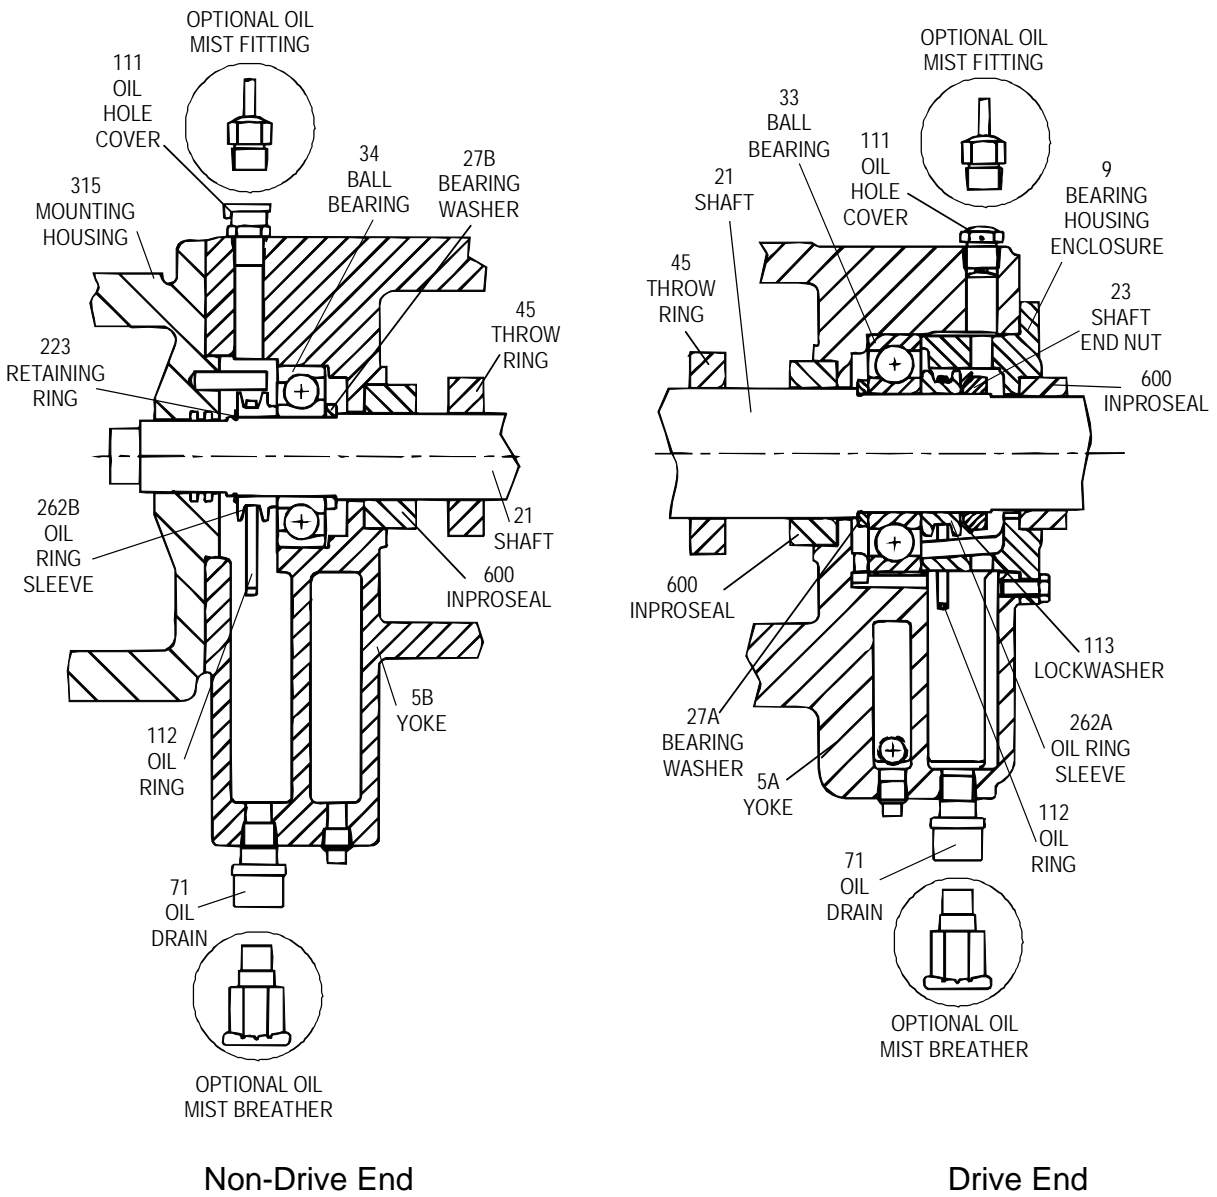

Figure L-5 RLA Bearing Housings Cross Section Optional Inproseal Design, 12L/12M
- k. Mount the oil ring sleeve with orientation shown in Figure L-5 and secure it with the retaining ring. Slip the oil ring into its groove in the shaft sleeve.